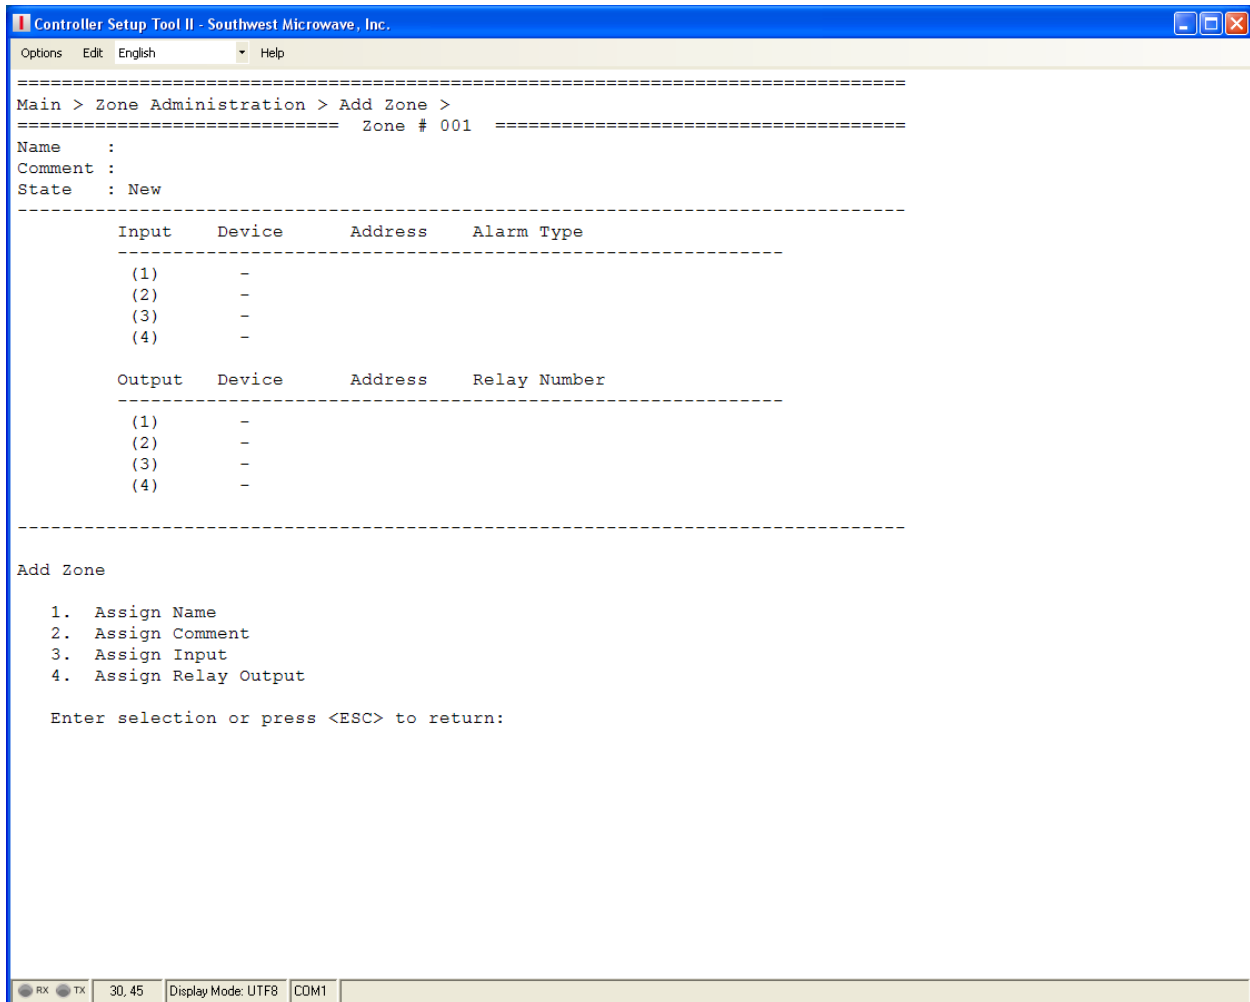

Figure 34 – Add Zones Screen
Selecting command 1 will open the “Add Zones” screen as shown in Figure 34. This will open as a blank Zone Record screen that will be used to create a Zone Record. A maximum of 256 Zone Records can be created. A Zone Record can have up to four (4) inputs and four (4) outputs assigned to it. There are four (4) commands to make the Zone Record; Assign Name, Assign Comment, Assign Input and Assign Relay Output. A copy of this blank record will be in Attachment A for handwriting the assignments for a specific site.